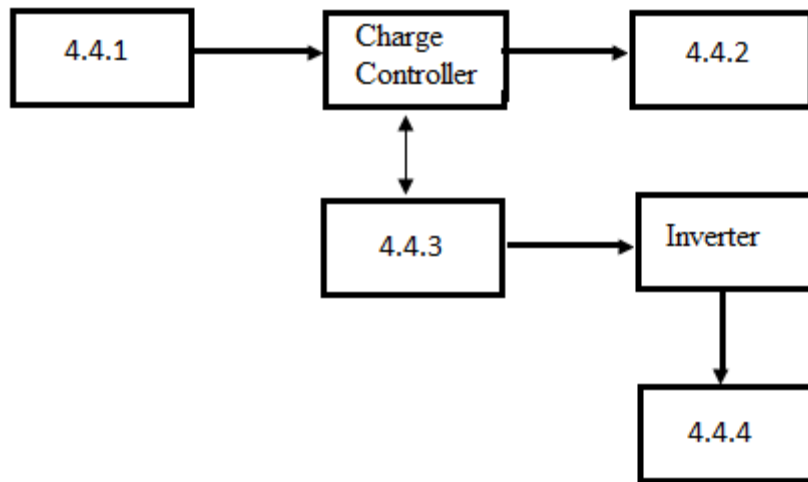

FIGURE 4.1: A block diagram of a solar electricity generation system for domestic use.
4.4 Identify the parts of the solar-electricity generation system in Figure 4.1. (4)